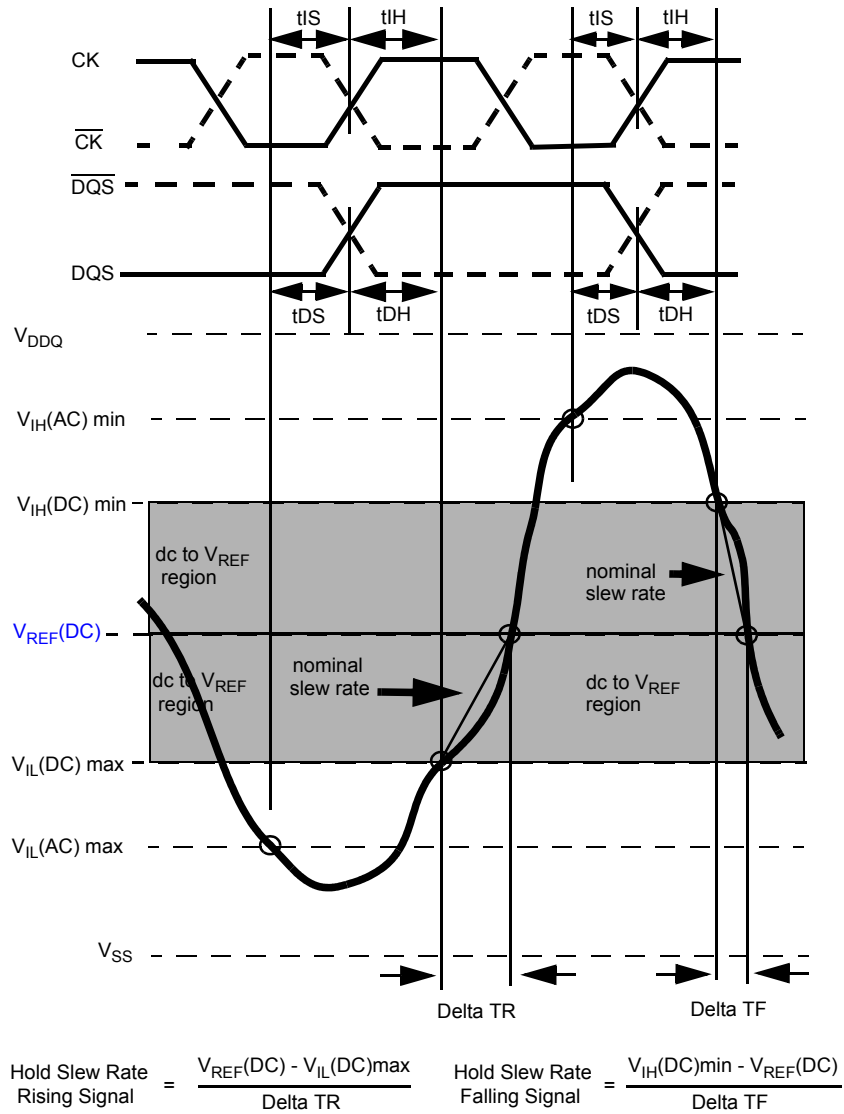
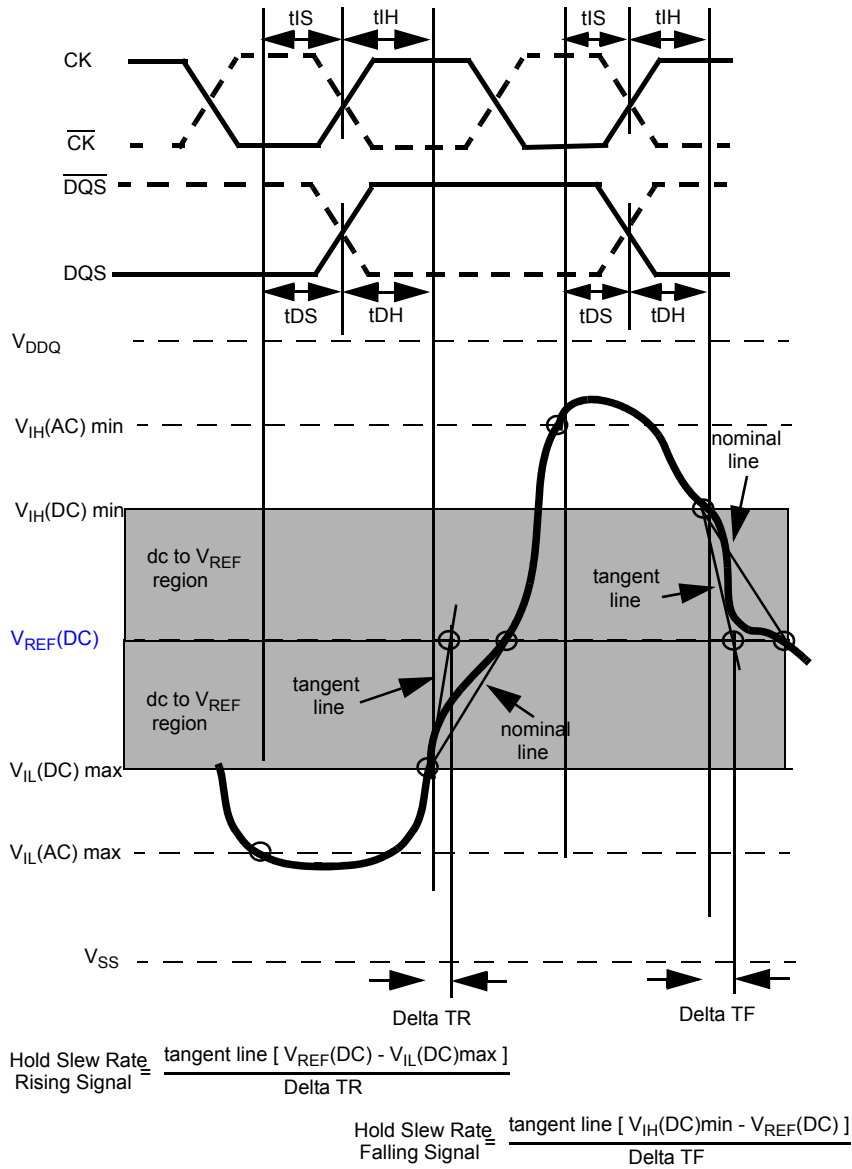

Figure 26 - Illustration of nominal slew rate for hold time tDH (for DQ with respect to strobe) and tIH (for ADD/CMD with respect to clock).
Figure 28 - Illustration of tangent line for hold time t_{DH} (for DQ with respect to strobe) and t_{IH} (for ADD/CMD with respect to clock)
Hold (tDH) nominal slew rate for a falling signal is defined as the slew rate between the last crossing of VIH(DC)min and the first crossing of VREF(DC) (see Figure 26). If the actual signal is always later than the nominal slew rate line between shaded 'dc level to VREF(DC) region', use nominal slew rate for derating value. If the actual signal is earlier than the nominal slew rate line anywhere between shaded 'dc to VREF(DC) region', the slew rate of a tangent line to the actual signal from the dc level to VREF(DC) level is used for derating value (see Figure 28).